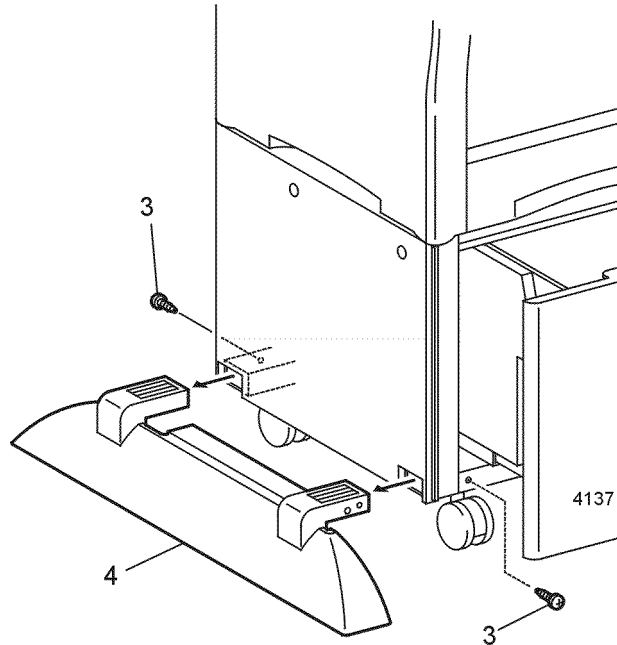

Figure 1 Left Foot
3. Remove the two screws that secure the Left Foot (Figure 1).
4. Remove the foot (Figure 1).